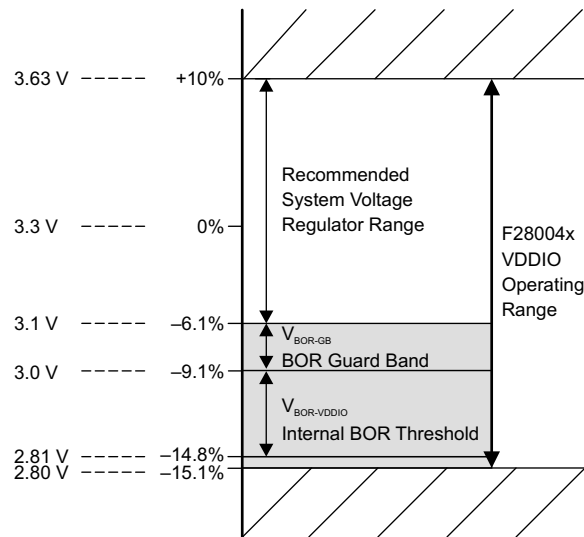

图 5-1. Supply Voltages
- (1) Internal BOR is enabled by default.
- (2) The VDDIO BOR voltage (V_{BOR-VDDIO(MAX)}) in Electrical Characteristics determines the lower voltage bound for device operation. TI recommends that system designers budget an additional guard band (V_{BOR-GB}) as shown in 图 5-1.
- (3) Supply ramp rate faster than this can trigger the on-chip ESD protection.
- (4) TI recommends V_{BOR-GB} to avoid BOR resets due to normal supply noise or load-transient events on the 3.3-V VDDIO system regulator. Good system regulator design and decoupling capacitance (following the system regulator specifications) are important to prevent activation of the BOR during normal device operation. The value of V_{BOR-GB} is a system-level design consideration; the voltage listed here is typical for many applications.
- (5) Operation above T_J = 105°C for extended duration will reduce the lifetime of the device. See Calculating Useful Lifetimes of Embedded Processors for more information.